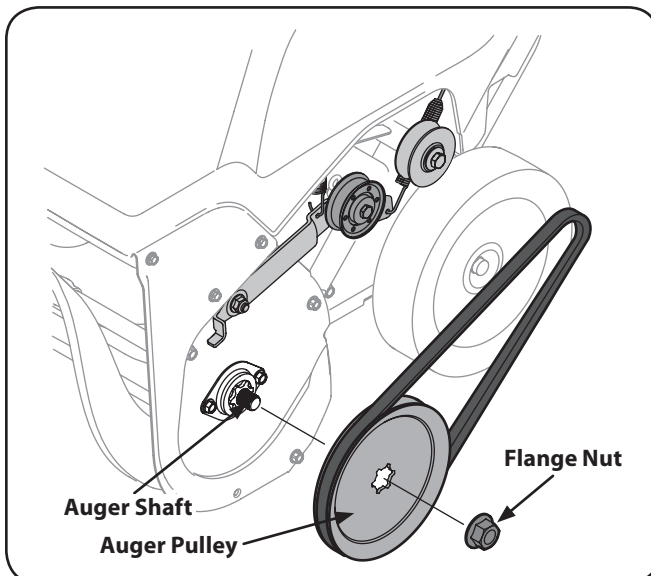

Figure 7-2
5. Remove the flange nut that secures the auger pulley to the auger shaft. See Figure 7-2.